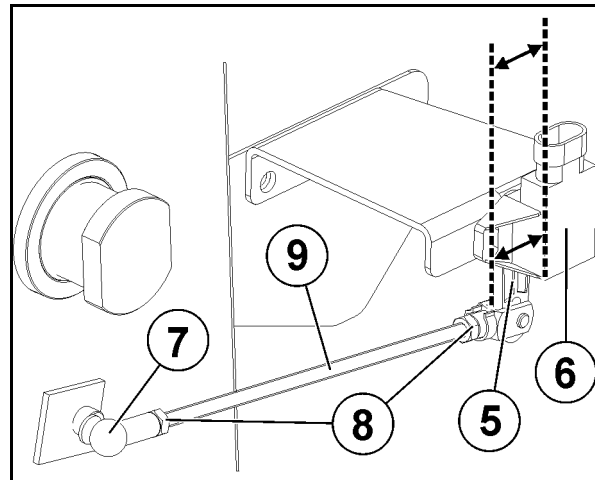

Fig. 90
7. Check whether the lever (5) of the angle sensor is in parallel position to the casing (6) of the angle sensor (Fig. 90).